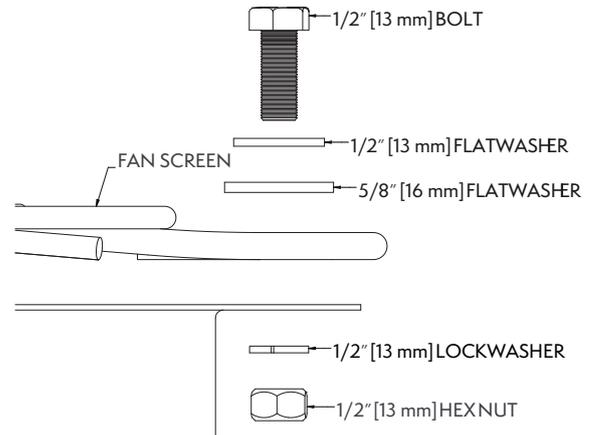

Figure 26 – Fan Screen Attachment Hardware
4. Align the (12) eyelets on each fan screen assembly with the pre-drilled 1/2" (13 mm) holes in each fan cylinder. Secure the fan screen to the cylinder with 1/2" (13 mm) hardware as shown in Figure 26.